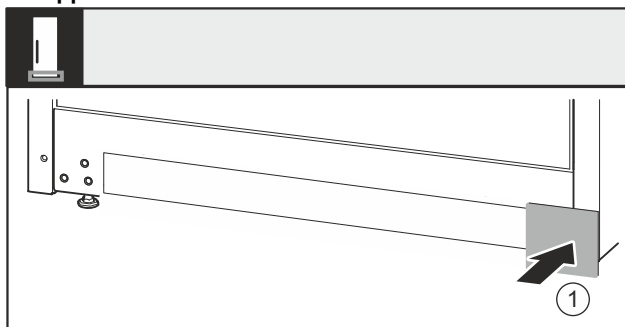

Fig. 25
- Re-attach the cover Fig. 25 (1) to the other side.